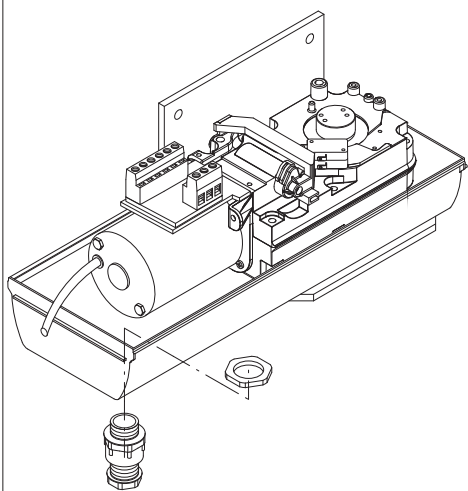

Fig. 12
- Position the limit-switch reference cams "R-FC1" and "R-FC2" as shown in fig. 12, without tightening the fixing screws.
- When the gate is fully closed or opened, rotate the corresponding cam until you perceive the click of the limit microswitch concerned, and lock it in position by tightening the appropriate screws as shown in fig. 12.